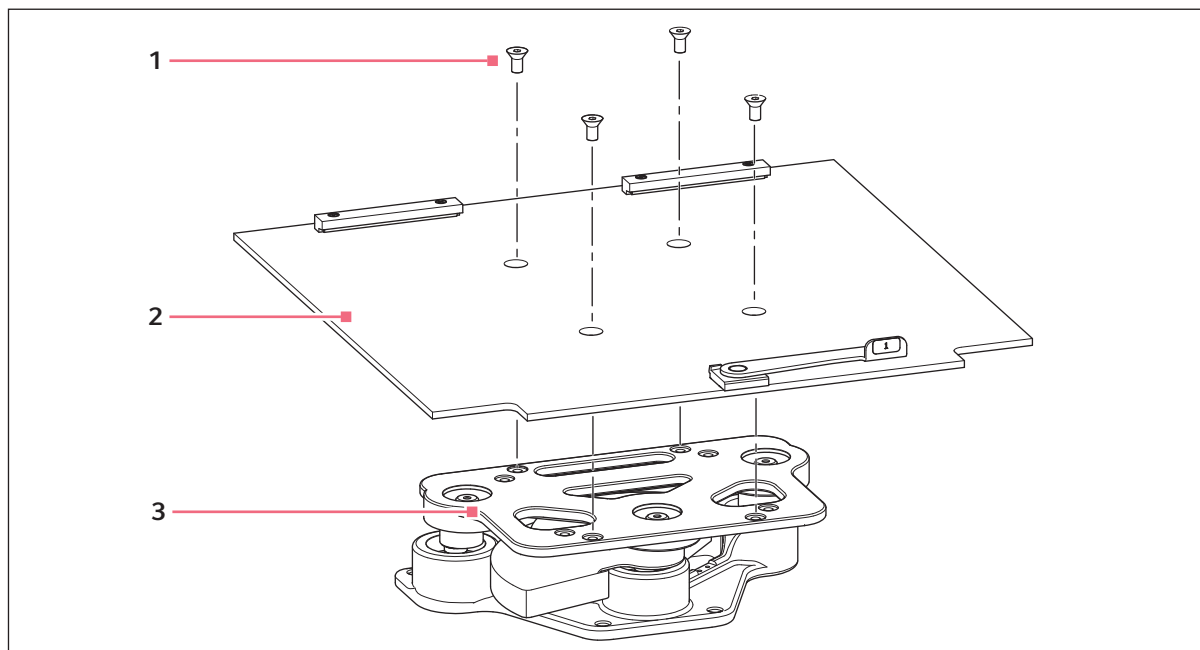

Fig. 8-1: Install Subplatform
Prior to use, a subplatform and platform must be installed on the unit. The shaker is shipped with four Allen head platform screws installed in the bearing housing, (see Fig. 8-1 on p. 39).
2. Place the subplatform onto the bearing housing, taking care to orient it as shown (see Fig. 8-1 on p. 39), with the notches and the lever toward the front of the shaker, lever facing up.